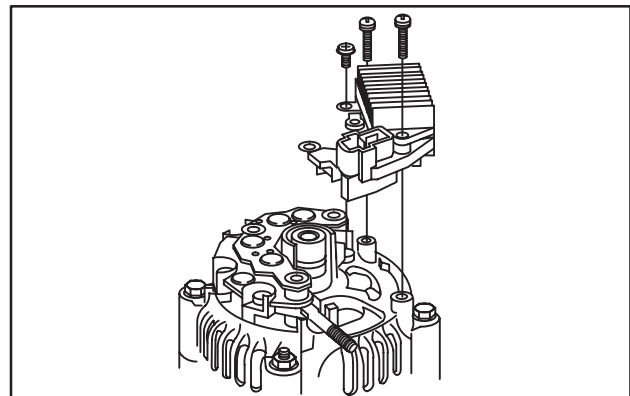

Fig. 24 – Remove Regulator
5. Remove three screws and regulator, Fig. 24.